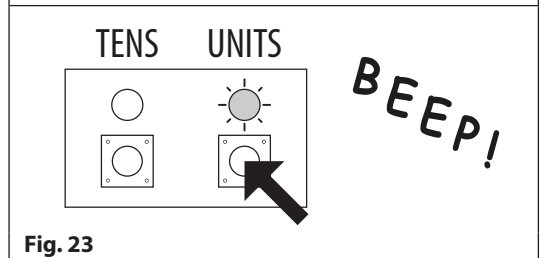

Fig. 23
2. Use the units button to set the unit ID of the reader, e.g. to set the unit ID to 5 press the units button 5 times (listen for the confirmation beep each time the button is pressed and observe the yellow units LED as this should flash each time the button is pressed), see **Fig.23**;